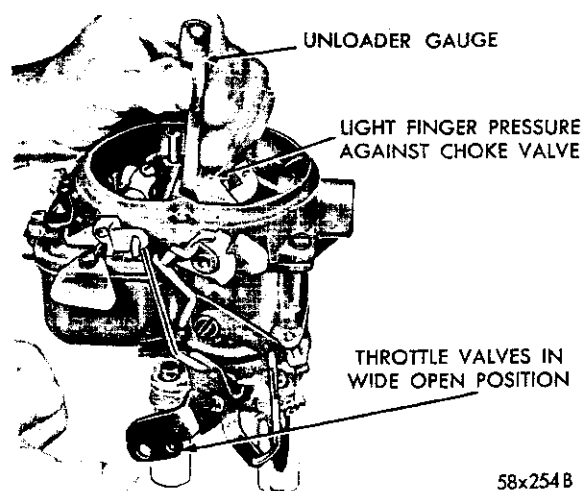

Fig. 18—Measuring the Choke Unloader Setting
(1) Hold the throttle valves in the wide open position. Insert Tool T109-31 (or a $\frac{1}{4}$ " drill shank) between the upper edge of the choke valve and the inner wall of the air horn, as shown in Figure 18.